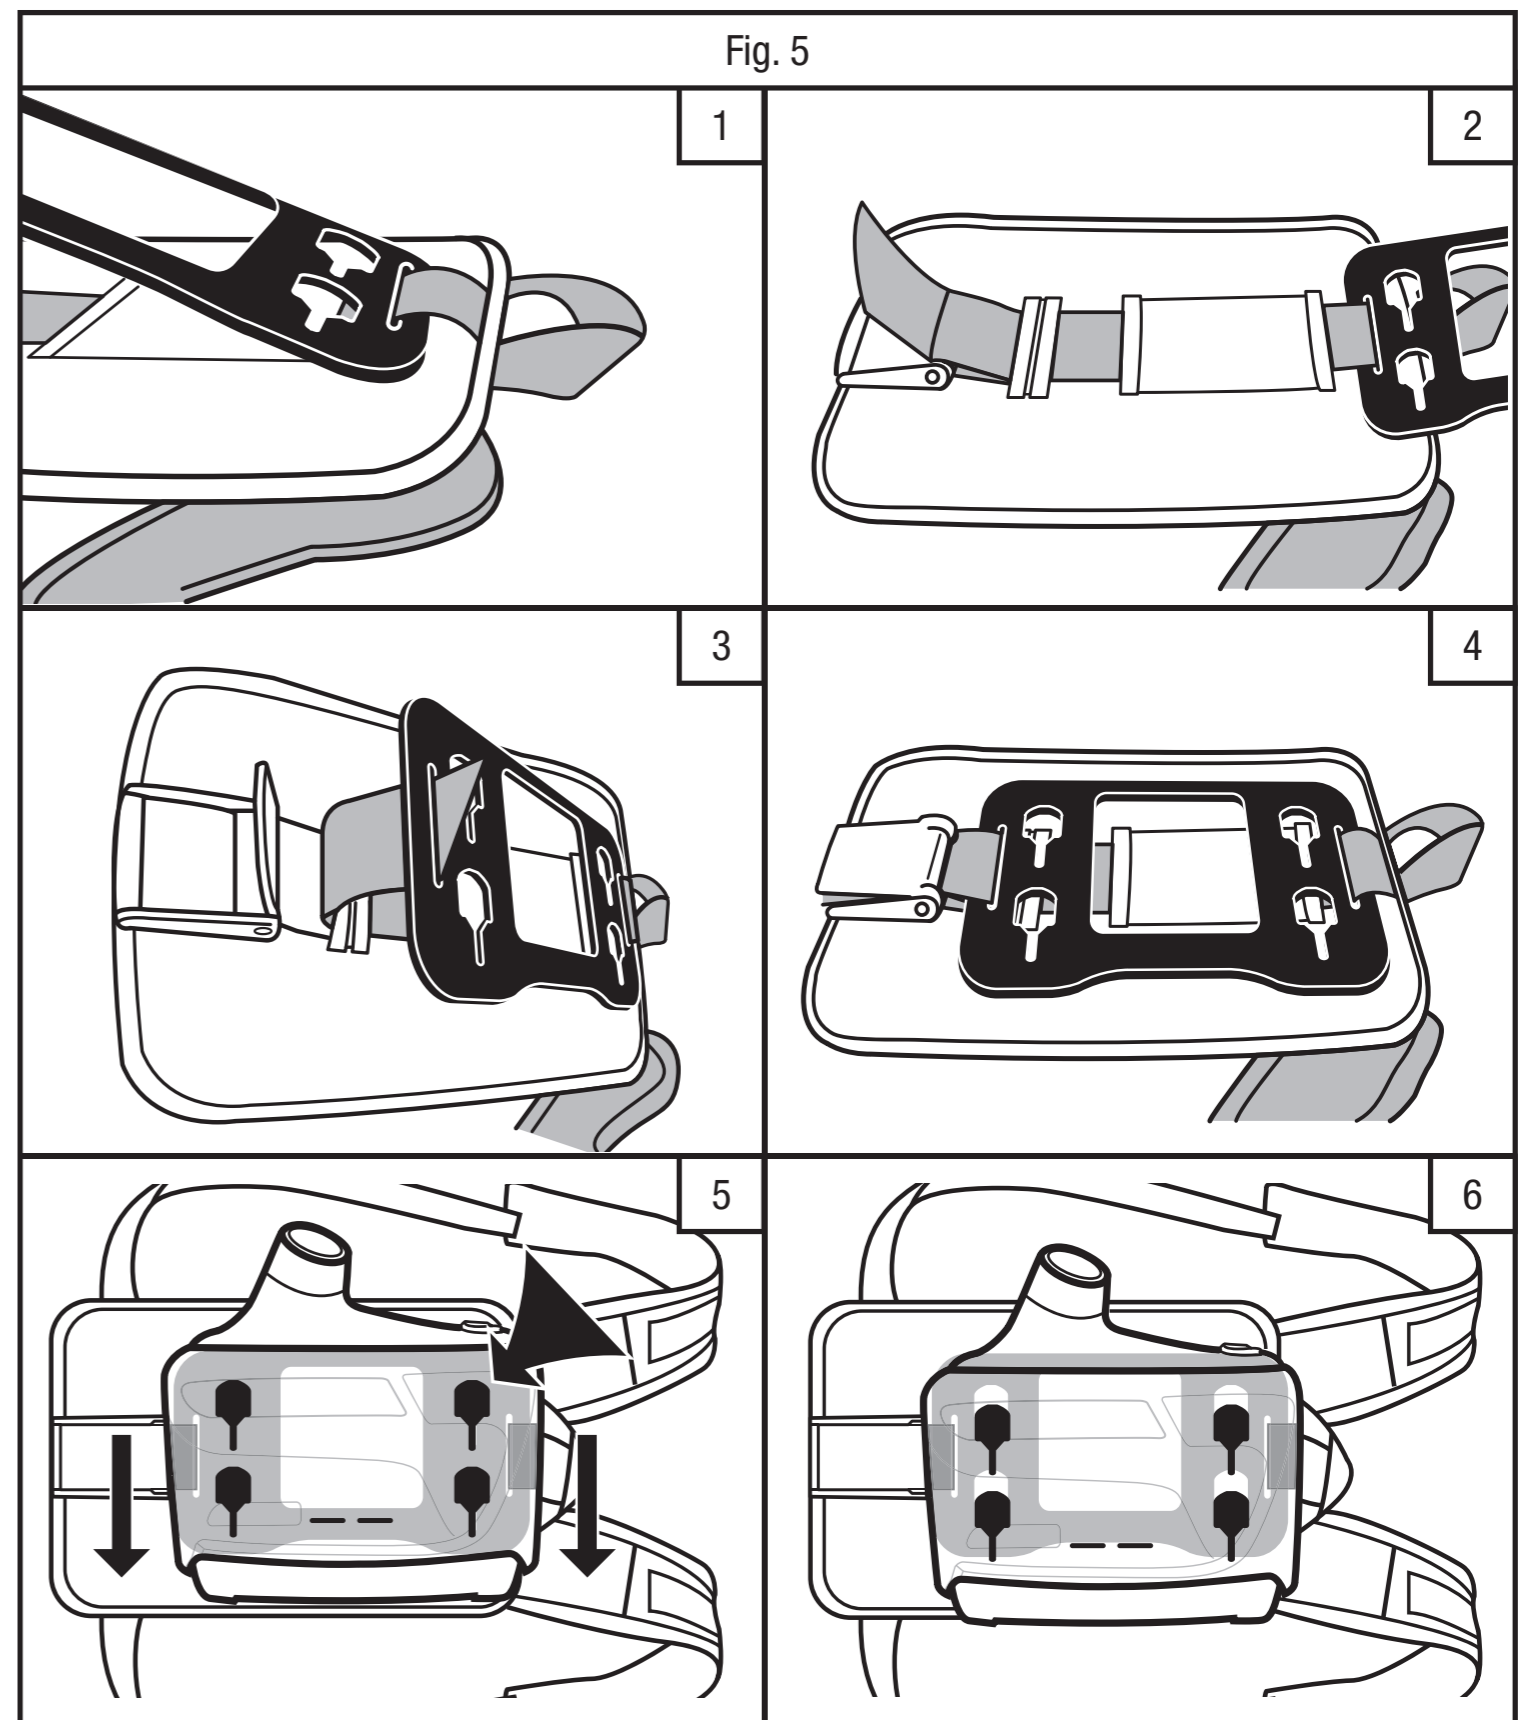

Fig. 5
1. Attach the TR-655 backpack adapter plate to the BPK-01 backpack as shown in Fig. 5, steps 1-4. Be sure the buckle on the BPK-01 is slide all the way down.
3. Place the 4 keyholes of the TR-655 backpack adapter plate onto the 4 T-bars on the back of the motor/blower (Fig. 5, step 5).
5. Slide the adapter plate up (Fig. 5, step 5) until the plate's edge snaps over the locking tabs on the bottom of the motor/blower (Fig. 5, step 6).